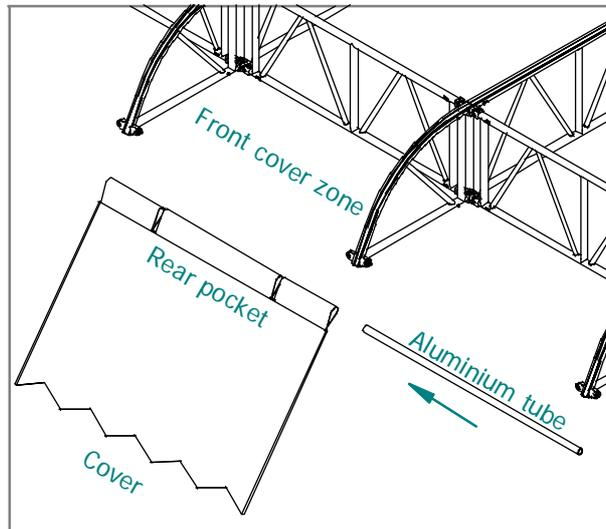

Fig. 9
3. Insert an aluminium tube, having a length corresponding to the width of the fabric sheet, into the back pocket compartment of the fabric sheet (fig. 9).